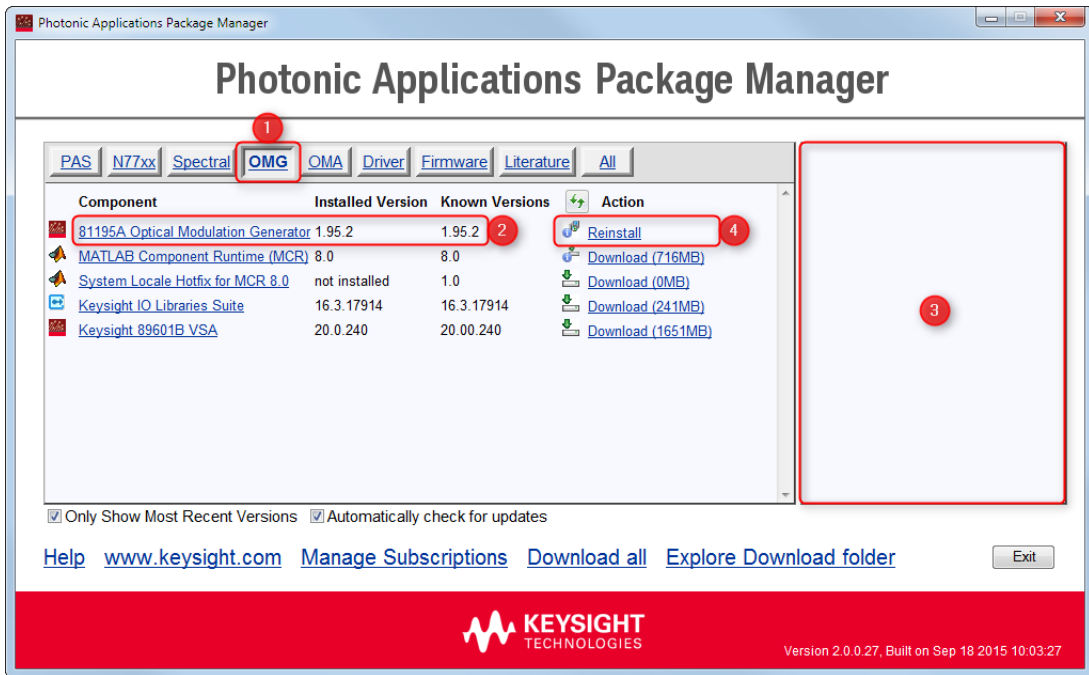

Figure 1 Photonic Applications Package Manager
The Package Manager, shown in the Figure 1 on page 12, is used for other Keysight photonic applications as well, so you may have to switch to the OMG tab (1) to see the actual OMG related packages. This will happen automatically, when the Package Manager is launched from the 81195A OMG software’s help menu or the M8195A software’s start menu folder.